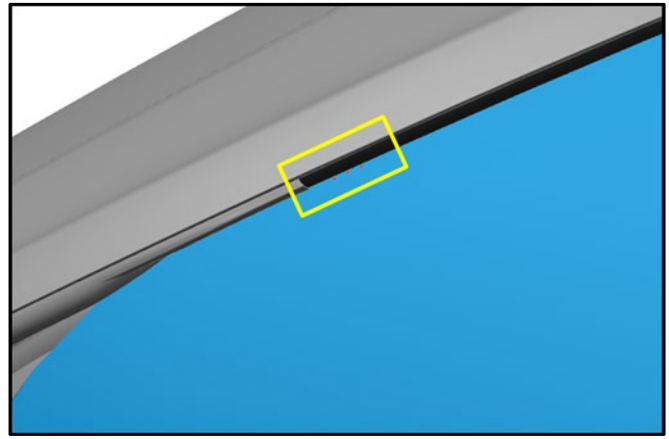
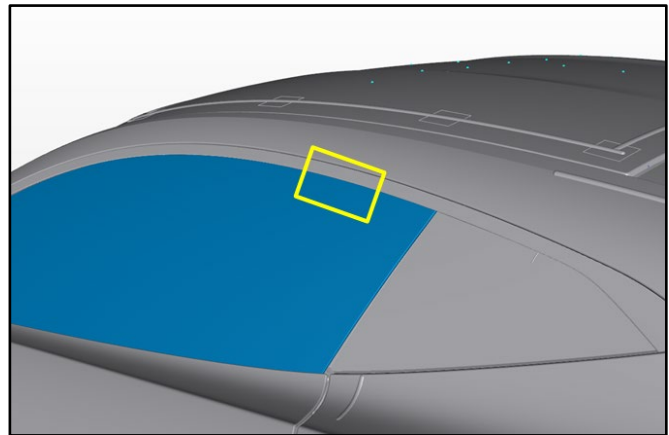

Figure 11
Figure 12
21. Identify the 9 dots on the front and rear of the of the door glass (refer to Figure 11 and Figure 12).